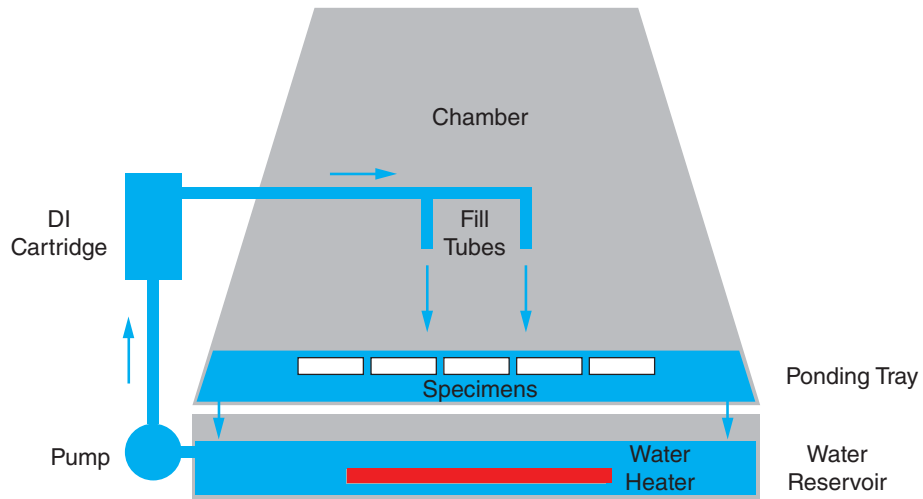

Figure 9.3f: Xe-1-WE water circulation schematic.
- During LIGHT + IMMERSION and DARK + IMMERSION steps the black panel temperature is controlled using the water heater instead of the air heater (Figure 9.3f).